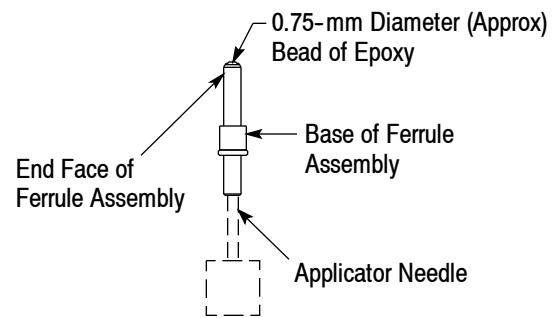

Figure 6
13. Hold the ferrule assembly vertically, and insert the needle tip into the base of the ferrule assembly until it is against the back (end closest to the base) of the ferrule assembly. Refer to Figure 6.